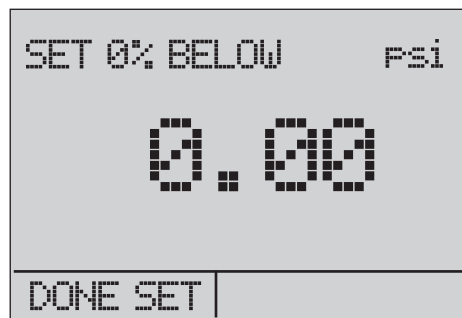

Figure 33. % ERROR Screen
7. Use the arrow keys to set lower limit of the measurement range, and select **DONE SET** when finished. The "%-ERROR" mode will be ready to use. See Figure 33.